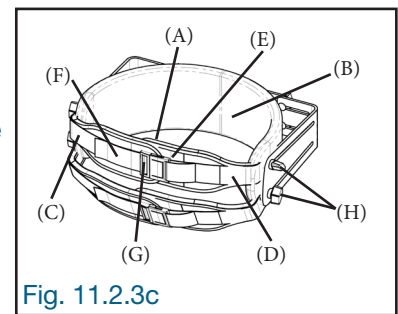

Fig. 11.2.3c
The hip pad belt (A) should be adjusted and tightened to the user's body to hold them in place. First, fold the half-belt (C) over the other half-belt with the hook-and-loop fastener (D) to cover at least half of the hook-and-loop fastener (E) of the half-belt (C). Second, adjust the length of the strap (F) by sliding it over the buckle (G) until the required length, and securely fasten the buckle (G). If necessary, slightly loosen the locking knobs (H) on each side of the hip pad block (B) to enlarge or tighten the belt (A) on the user's hips, and firmly tighten the locking knobs (H) (Fig. 11.2.3c).